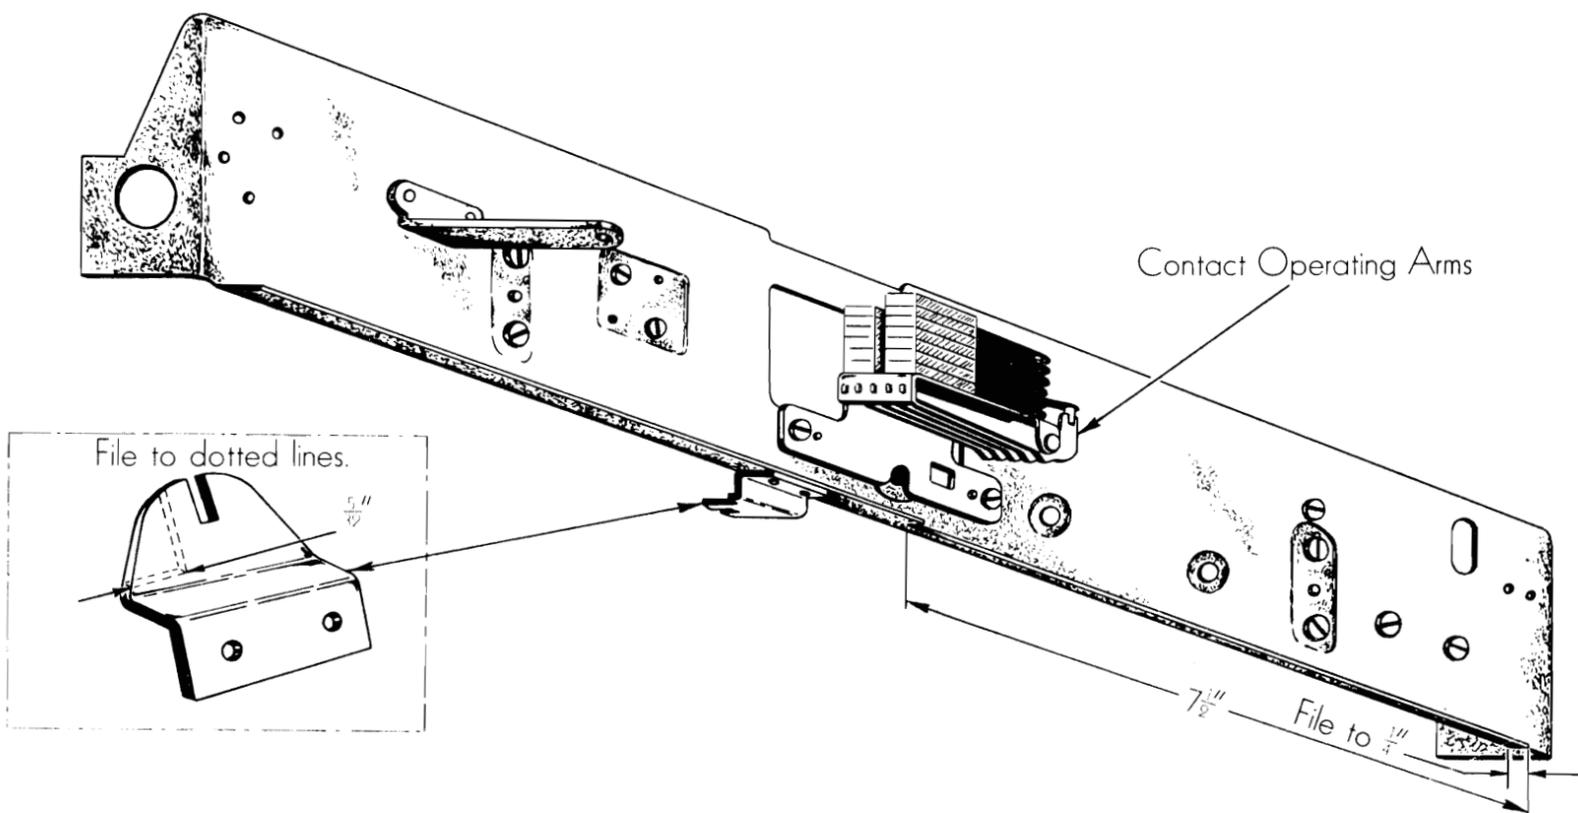

FIGURE 16
If a present style carriage, Part No. 185970, is installed on a machine which had the earlier carriage, it will be necessary to re-work the top cross member assembly at two places as follows. See Figure 16.
2. The bracket which supports the rebound check pawl near the bottom center of the cross member must be filed at the left side as shown by the insert, Figure 16, because of interference with the left end of the carriage when it moves to the Column 1 punching position.
6. Place a tab insert in Column 40 and set the carriage on Column 40. The tab rack should be adjusted laterally so that the insert rests directly below the center of the points on the contact operating arms. (See also Figure 16).